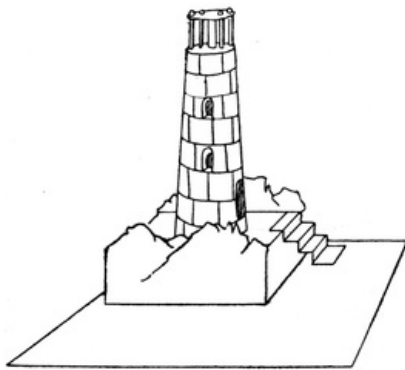

FIG. 113
**A Lighthouse** (Fig. 113). This toy is made from two corks gummed together and fastened to the cover of a match-box which is gummed to a square of cardboard covered with blue paper. Round the box, paper, cut and coloured to represent rocks, is pasted and paper steps are fastened to one edge. Into the top cork four pieces of matches are inserted and between them is placed a small roll of red paper. A small piece of paper with four holes in it is placed on top of the matches. The corks can be coloured grey, and windows and doors painted on them. The top cork must be filed to fit the lower one, and its upper end filed to make it narrower.